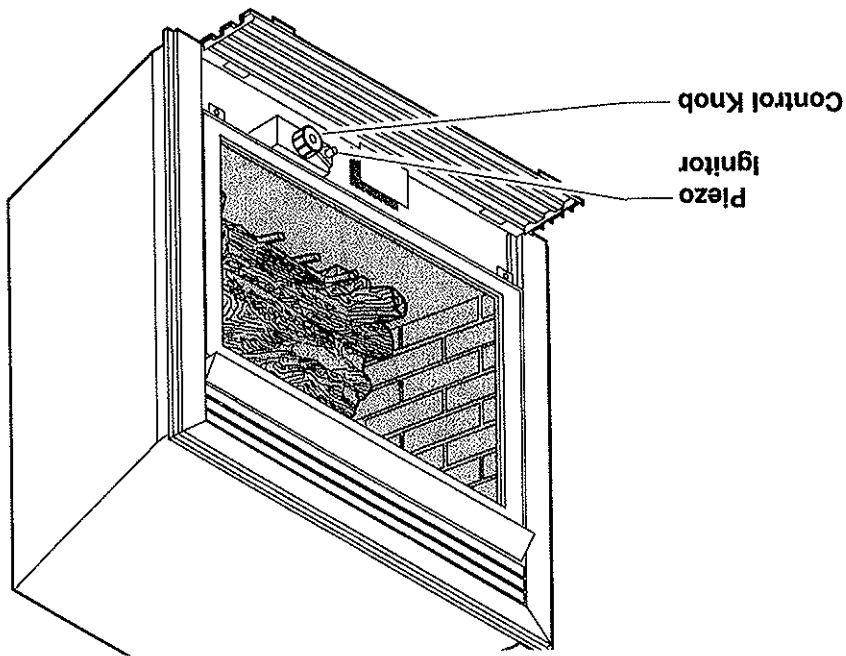

Figure 24: Location of Piezo Ignitor & Control Knob
4. Refer to *Figure 24* for the location of the piezo ignitor and control knob. Push in gas control knob slightly and turn control knob clockwise to the OFF position.
4. Refer to *Figure 24* for the location of the piezo ignitor and control knob. Turn control knob clockwise to the OFF position.